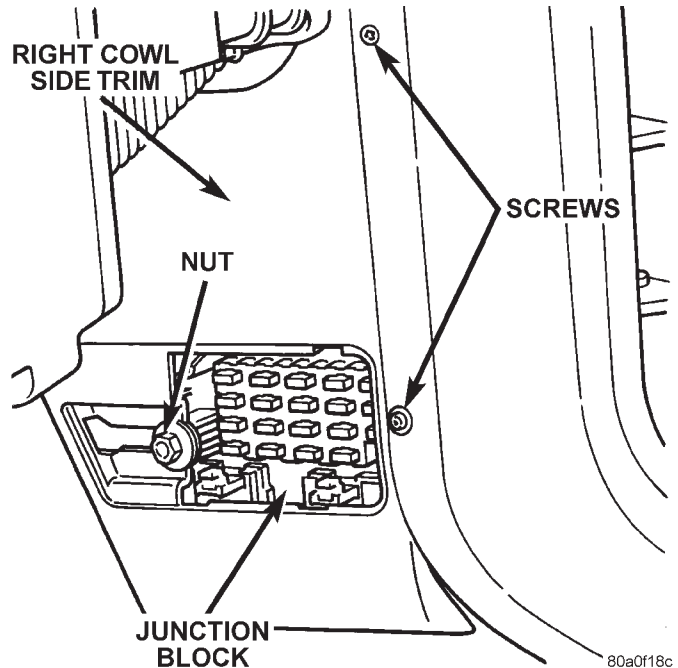

Fig. 12 Right Cowl Side Trim Remove/Install
(1) Disconnect and isolate the battery negative cable.
(2) Remove the fuse access panel by unsnapping it from the right cowl side trim panel.
(3) Remove the nut securing the right cowl side trim to the junction block stud (Fig. 12).
(4) Remove the two screws securing the right cowl side trim to the right front door opening trim.
(5) Remove the right cowl side trim panel.
(6) Remove the relay by unplugging it from the junction block.
(7) Install the relay by aligning the relay terminals with the cavities in the junction block and pushing the relay firmly into place.
(8) Reverse the remaining removal procedures to complete the installation.